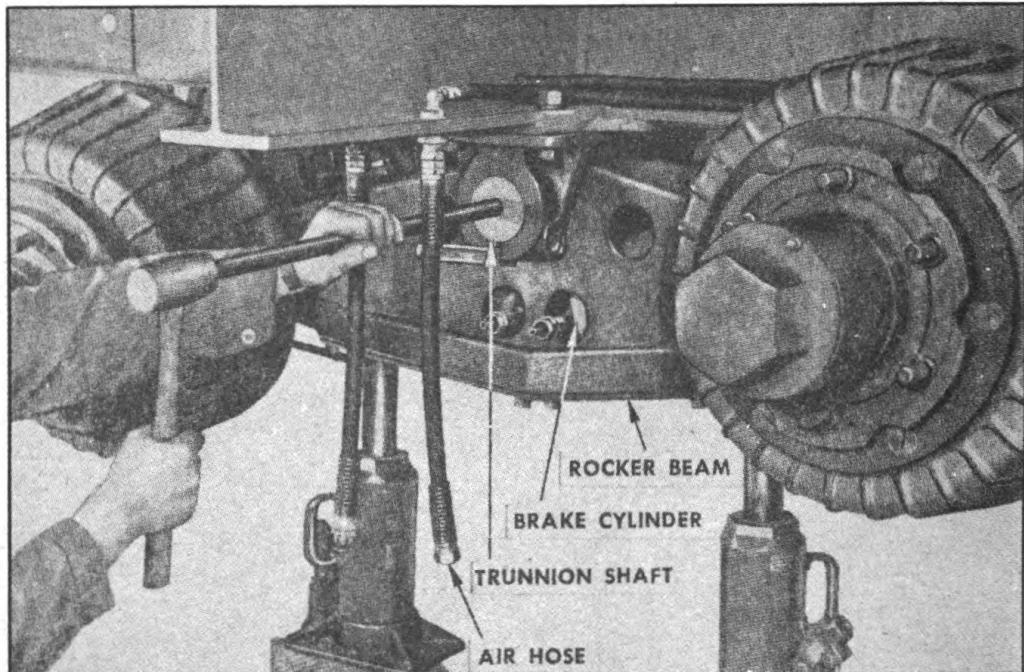

FIGURE 17. TRUNNION SHAFT REMOVAL
c. *Trunnion shaft removal* (Figure 17).—(1) Place a hydraulic jack under rear crossmember at each corner. Jack trailer up just high enough to relieve the weight of underconstruction against mounting brackets.
(2) Place two jacks under rear crossmember and jack trailer up.
(3) Place a greased plank on steel plate under the outer wheel and hub assembly.
(4) Remove the four inner wheels.
(5) Remove the two inner hub assemblies.
(6) Remove the two outer wheel and hub assemblies in one unit.
(7) Disconnect the front and rear parking brake rods at brake lever.
(8) Remove the two clevis pins from the two equalizers.
(9) Remove front and rear trunnion axle with brake assembly attached.
(10) Disconnect the two air lines which run to brake cylinders mounted on inside of rocker beam.
(11) Place a jack under rocker beam at front and rear.
(12) Remove the pinch bolt from mounting bracket (Figure 17).
(13) Remove alemites from trunnion shaft.
(14) Drive shaft out using a heavy bar and sledge hammer (Figure 17).
(15) Lower the two jacks and lift rocker beam out.
*f. Replacing walking beam.*—(1) NOTE: Before attempting to install rocker beam test operation of trunnion shaft by shoving it through bushings of rocker beam. Make sure the bushing is not burred as this will prevent trunnion shaft from sliding through.